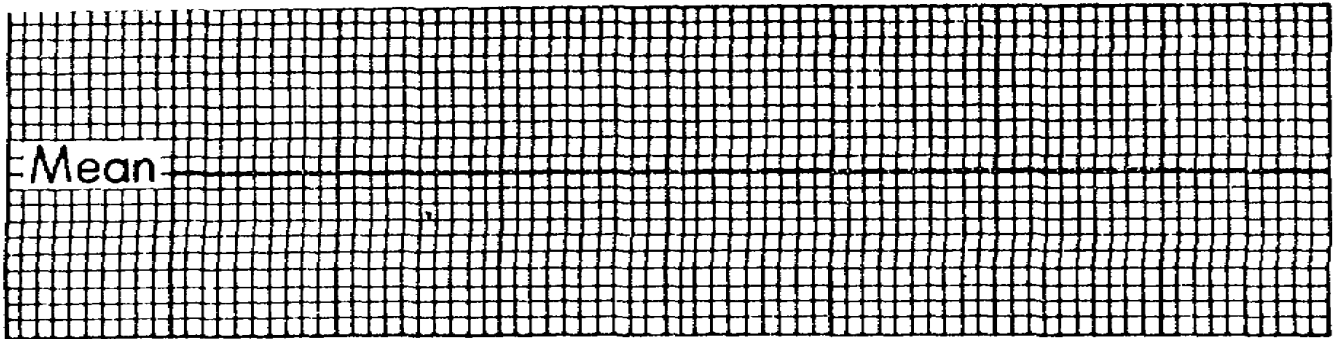

Figure 26
b. The solid horizontal line through the center of the process control chart represents the target or Mean line (figure 26). It (target line) represents the central gamma or the optimum gamma desired for the process.